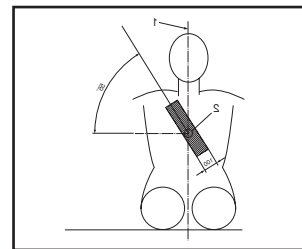

Figure 5
- The diagonal belt must be positioned across the user's shoulder and chest as shown in figure 5.